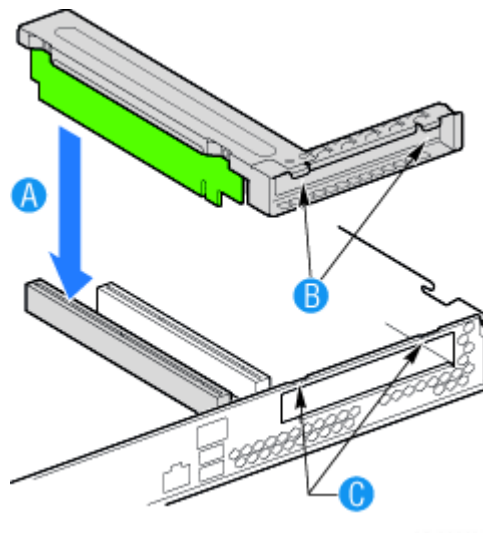

Figure 145: Installing PCI Riser Assembly
1. Lower the riser assembly into place over the add-in card slot. See letter “A” in Figure 145.